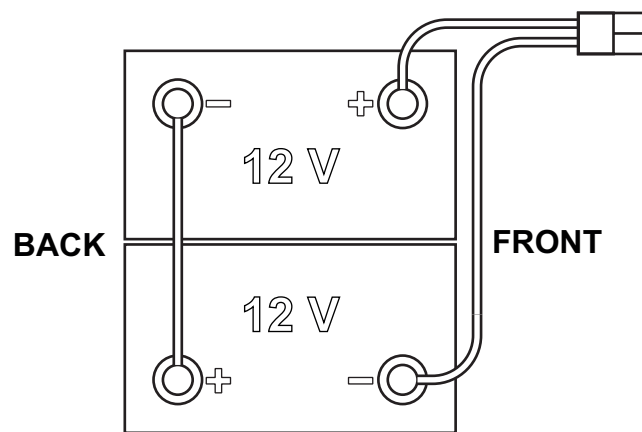

Figure 1
The machine requires 2 12V batteries, connected according to the diagram shown in Figure 1.
1. Turn the ignition key (41) to "O" to turn off the machine.
2. Disconnect the battery connector by pressing the emergency push-button (5).
3. Lift the cover (18) and check that the recovery tank (17) is empty, otherwise empty it with the drain hose (26).
4. Close the cover (18).
5. Grasp the handle (35) and carefully lift the recovery tank assembly (17).
8. Route and install the battery cable as shown in Figure 1, then carefully tighten the nut on each battery terminal.
9. Place the protection cap on each terminal, then connect the battery connector (6).
10. Disengage the support rod (36), then grasp the handle (35) and carefully lower the recovery tank assembly (17).